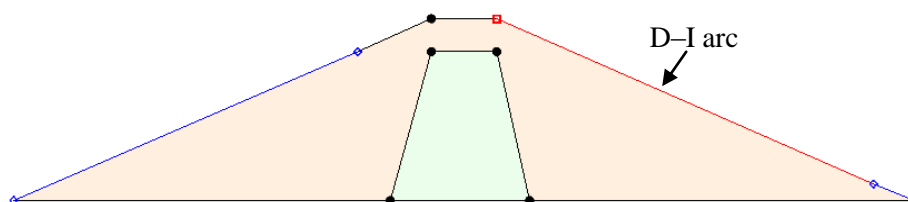

Figure 8 Exit-face boundary
1. Using the **Select Arcs**  tool, double-click on the D–I arc on the upper right (Figure 8) to bring up the *Attribute Table* dialog.
The arc will now be red, indicating it has an exit face boundary condition (Figure 8).